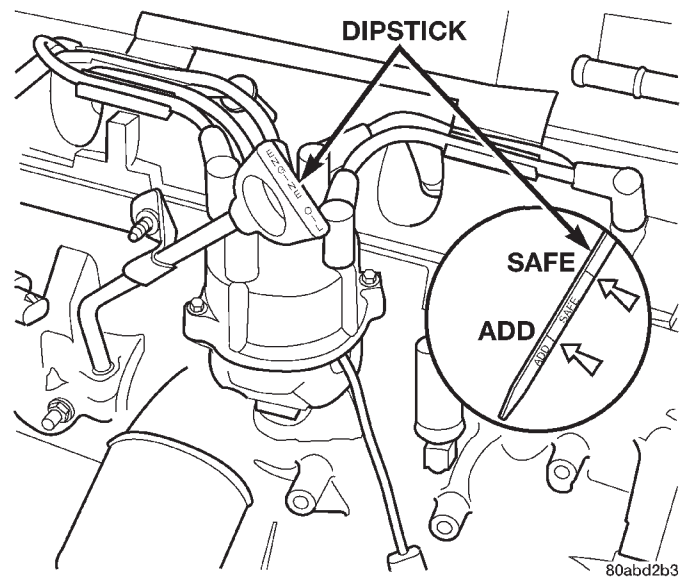
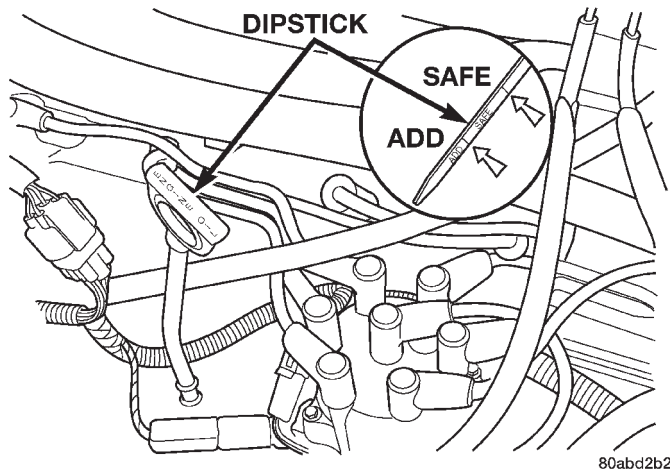

Fig. 6 Engine Oil Dipstick—2.5L Engine
Fig. 7 Engine Oil Dipstick—4.0L Engine
To ensure proper lubrication of an engine, the engine oil must be maintained at an acceptable level. The acceptable levels are indicated between the ADD and SAFE marks on the engine oil dipstick (Fig. 6) (Fig. 7).
- (1) Position vehicle on level surface.
- (2) With engine OFF, allow approximately ten minutes for oil to settle to bottom of crankcase, remove engine oil dipstick.
- (3) Wipe dipstick clean.
- (4) Install dipstick and verify it is seated in the tube.
- (5) Remove dipstick, with handle held above the tip, take oil level reading (Fig. 6) (Fig. 7).
- (6) Add oil only if level is below the ADD mark on dipstick.